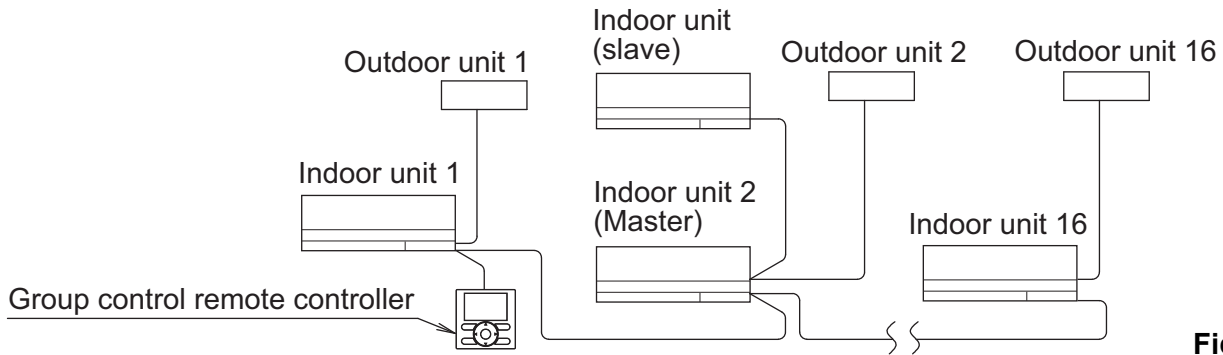

Fig. 28
- When using as a pair unit or as a master unit for simultaneous multiple unit operation, you may carry out simultaneous start/stop (group) control up to 16 units with the remote controller. **(Refer to Fig. 28)**